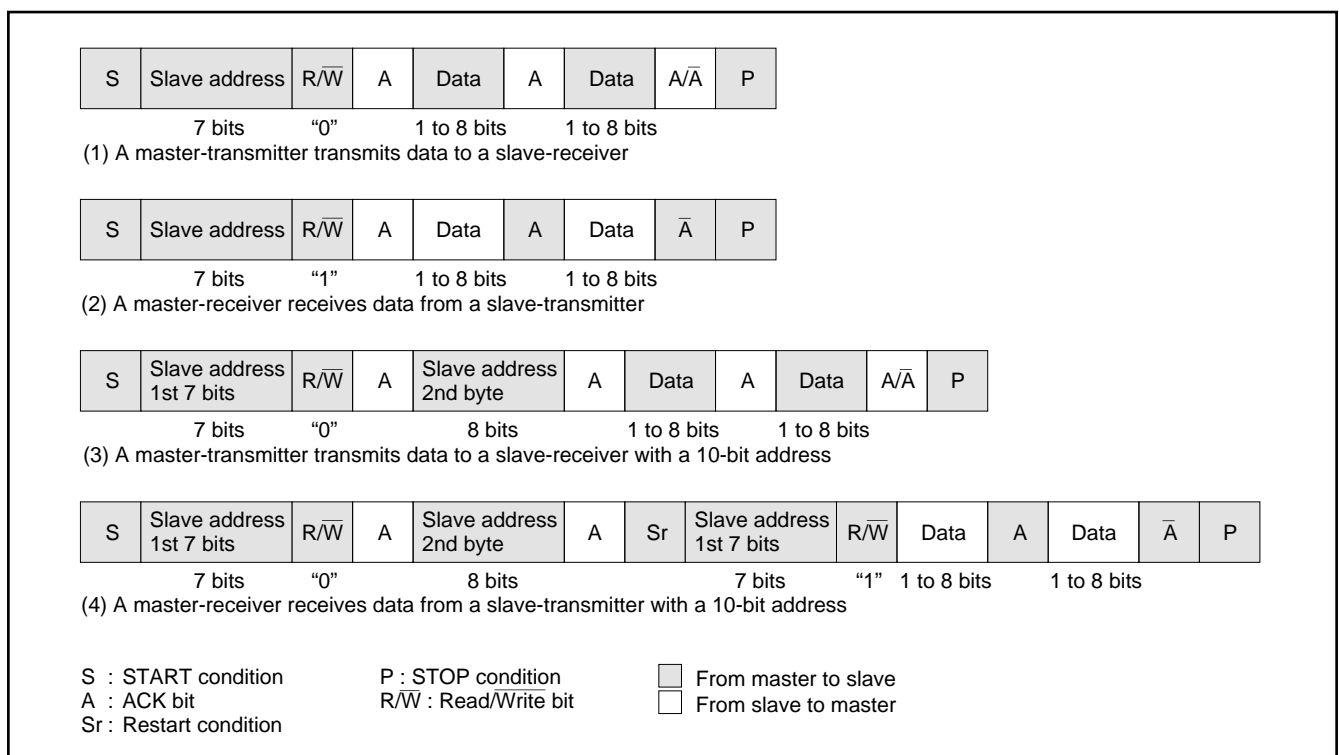

Fig. 46. Address data communication format
① 7-bit addressing format
To meet the 7-bit addressing format, set the 10BIT SAD bit of the I²C control register (address 00F916) to "0." The first 7-bit address data transmitted from the master is compared with the high-order 7-bit slave address stored in the I²C address register (address 00F716). At the time of this comparison, address comparison of the RBW bit of the I²C address register (address 00F716) is not made. For the data transmission format when the 7-bit addressing format is selected, refer to Figure 46, (1) and (2).
② 10-bit addressing format
When the first-byte address data matches the slave address, the AAS bit of the I²C status register (address 00F8₁₆) is set to "1." After the second-byte address data is stored into the I²C data shift register (address 00F6₁₆), make an address comparison between the second-byte data and the slave address by software. When the address data of the 2nd byte matches the slave address, set the RBW bit of the I²C address register (address 00F7₁₆) to "1" by software. This processing can match the 7-bit slave address and R/W data, which are received after a RESTART condition is detected, with the value of the I²C address register (address 00F7₁₆). For the data transmission format when the 10-bit addressing format is selected, refer to Figure 46, (3) and (4).
- ⑥ •When all transmitted addresses are "0" (general call)